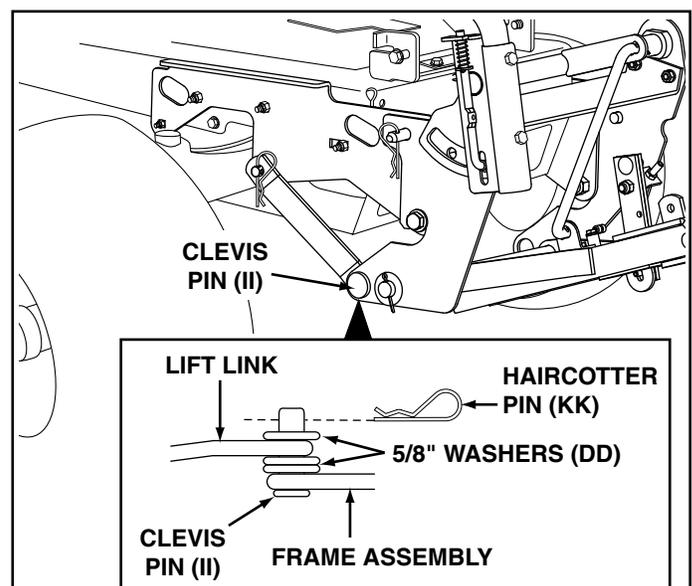

FIGURE 31
STEP 4: (SEE FIGURE 31)
- A. Insert a 5/8" clevis pin (II) through the frame assembly from the outside.
- B. Place two 5/8" washers (DD) onto the clevis pin.
- D. Place a 5/8" washer (DD) onto the clevis pin and secure with a hair cotter pin (KK).